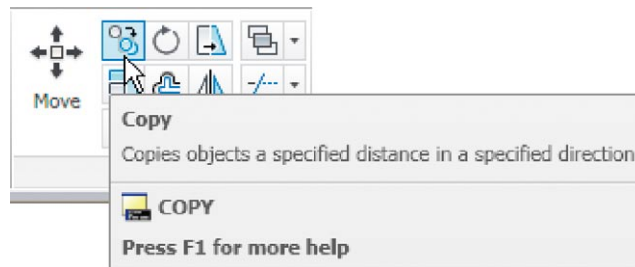

Fig. 5.4 The **Copy** tool from the **Home/Modify** panel
2. Call the **Copy** tool – either *left-click* on its tool icon in the **Home/Modify** panel (Fig. 5.4) or *enter cp* or *copy* at the command line. The command line shows: